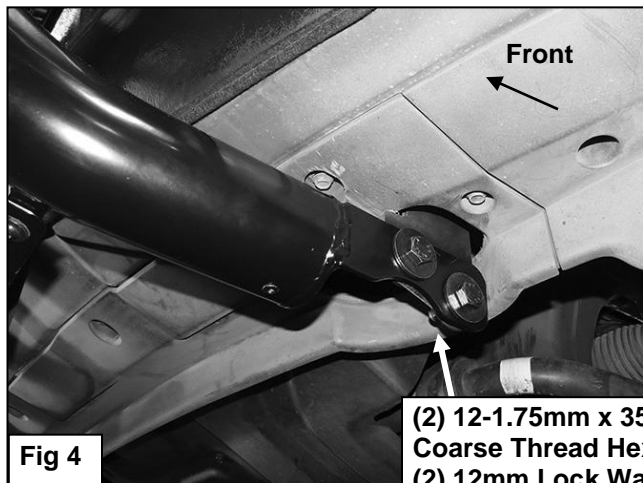

Fig 4
- Align the Bull Bar properly and tighten all hardware bolting the (2) Brackets to the frame only. Do not tighten the Bull Bar hardware at this time.
- Remove the Bull Bar. Place the air dam in position over the Brackets. Carefully cut slots in the plastic splash guard or air dam to allow the Brackets to pass through, **(Figure 4)**. Remove as little plastic as possible for a clean installation. Once properly trimmed, re-install the air dam using the factory hardware. Re-install the Bull Bar as described in **Steps 5—6**. Tighten Bracket to vehicle hardware only.